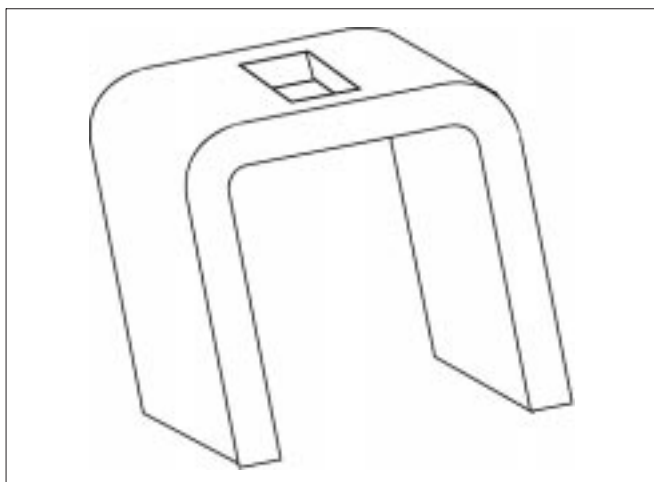

Figure 1-11. Clutch Tool P/N 147337.
- Clutch Tool, (Standard N28 Engines) P/N 147337 (Figure 1-11).